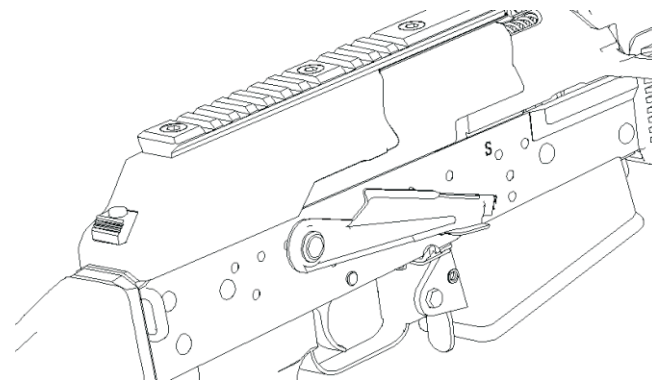

Fig. 22 Receiver Cover Reassembled
4.2.4. When assembling the receiver cover, first push the counter-recoil device a bit forward to have it held in the rear seat slot. Turn the receiver cover assembly till it contacts the counter-recoil device seat, then gently press the cover with the left hand and pull the bolt backward with the right hand to force the counter-recoil device seat into the square hole in the receiver cover (see Fig. 22).